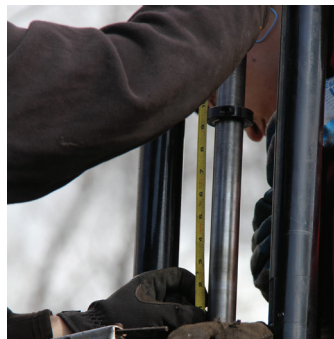

Figure 44
4.2.2) Slide a stop collar onto the saw mandrel and use this stop collar as your mechanical stop for tapping depth. The stop collar should be set at a distance equal to half the outside diameter of the pipe that is to be tapped (for example, use 8.70" for a pipe that measures 17.4" in OD or 7.65" for a pipe that measures 15.3" OD (see Figure 44).